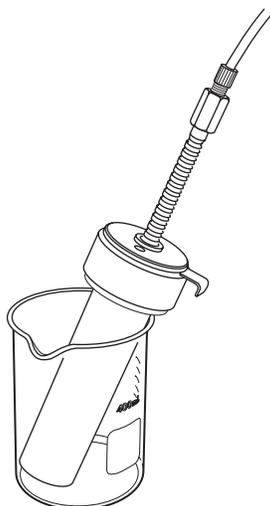

Figure 6: Dry the sample using the internal air pump on the CombiFlash Rf system (Optional)
- Place the end of the cartridge in a beaker to capture solvent and any compound that "breaks through" (Figure 6).